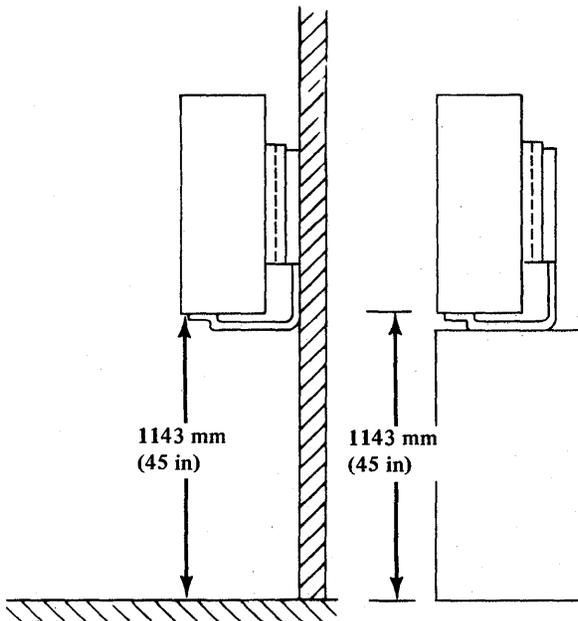

Figure 3-14. Mounting bracket height
- ( ) The entry station is designed to be wall mounted; however, it can be put on a floor pedestal or table (see Figure 3-14).